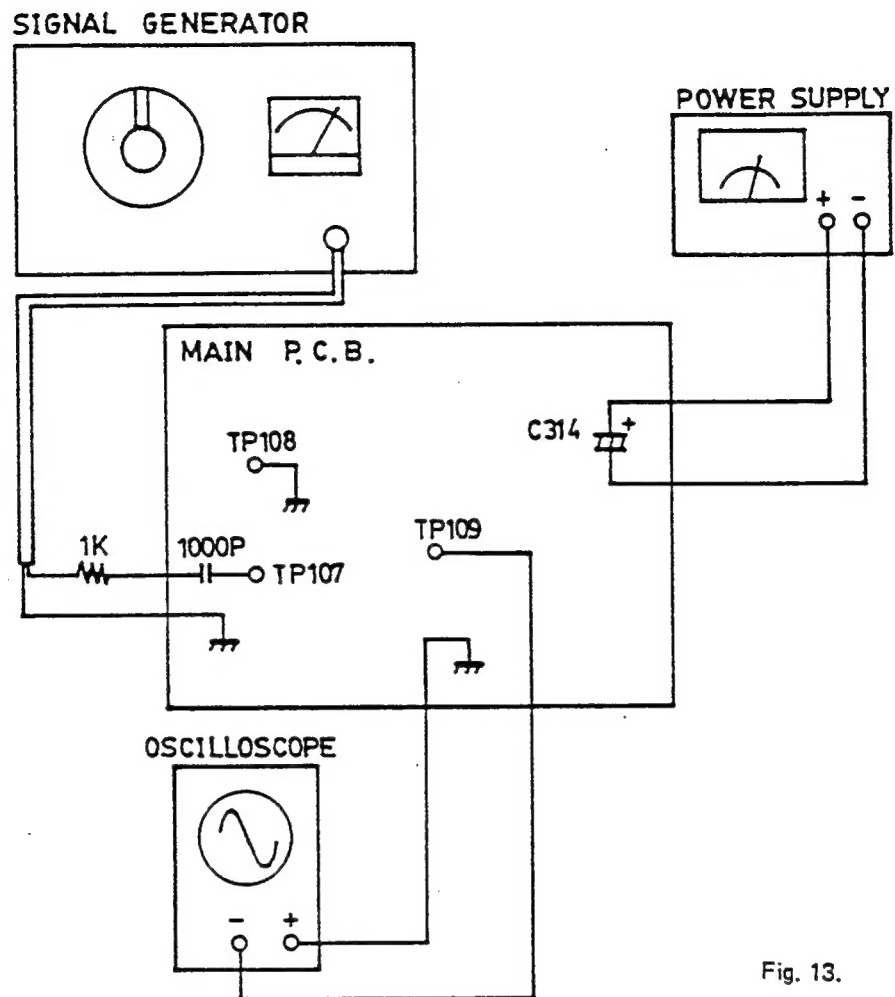

Fig. 13.
1. The signal from AM/FM signal generator which is set at 5.5MHz with AF400Hz, 30% FM modulation, is applied to TP107 (between C127 and C128) through a 1K ohm resistor and a 1000pf capacitor as shown in Fig. 13.